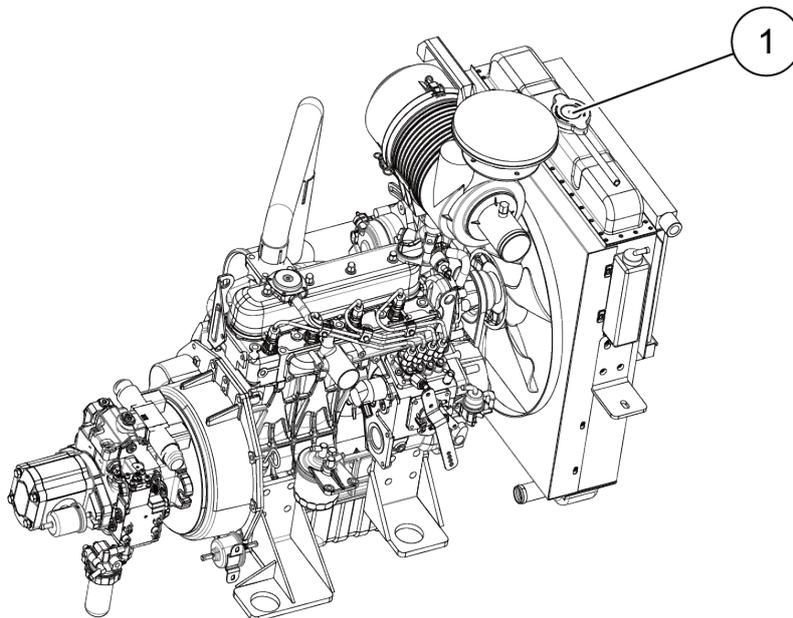

Figure 6-37 Water tank cap
(3) Nut (4) Cover of mounting frame (5) Air filter element
Step 4: Replace the new air filter element (5) and install the remaining parts in the reverse order.
Step 3: After the engine is sufficiently cooled down, slowly unscrew the cap (1), as shown in Figure 6-37;